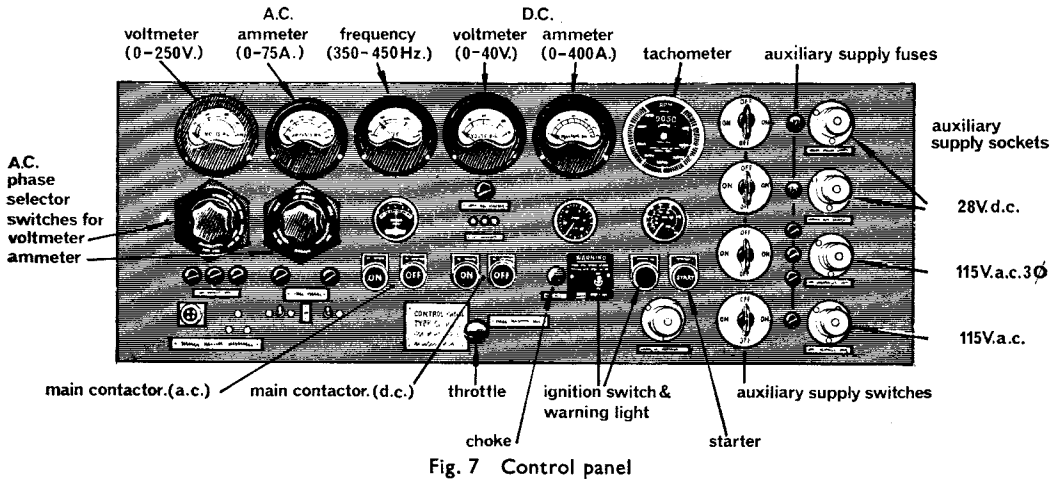

Fig. 7 Control panel
15. Control panel. Figure 7 shows a general view of the control panel of the petrol engine driven trolley. The panel on the electric motor version is the same except that the engine instruments and controls are omitted. When the main contactors are closed and power is being supplied to the aircraft warning lights on the canopy of the trolley are illuminated. The white light indicates 'd.c. power on' and the green light 'a.c. power on'. There are also two red 'obstruction warning' lights on the canopy roof, operated by a switch on the control panel. These lights must always be switched on at night and at any other time if required by unit servicing orders.